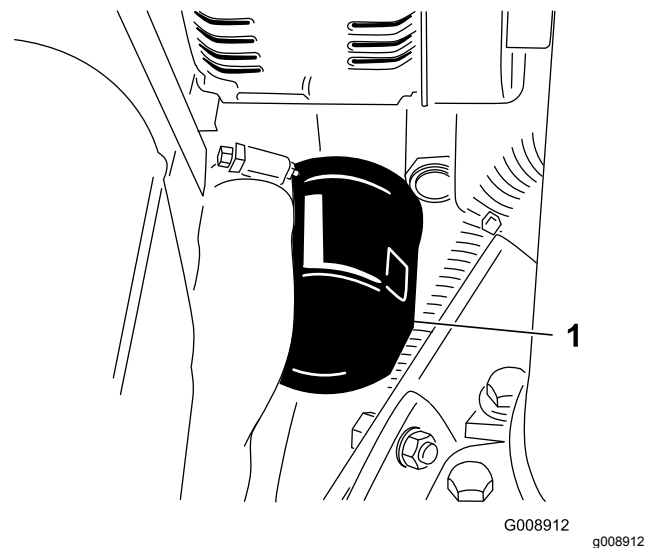

Figure 64
2. Remove the oil filter (Figure 64).